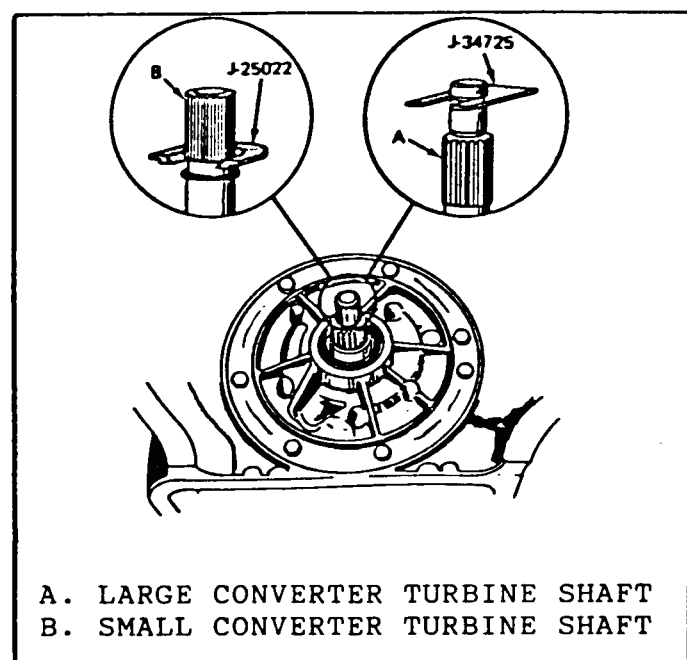

Figure 104
2. Install J-25022 adapter, or J-34725 adapter, as shown in Figure 104 on turbine shaft.